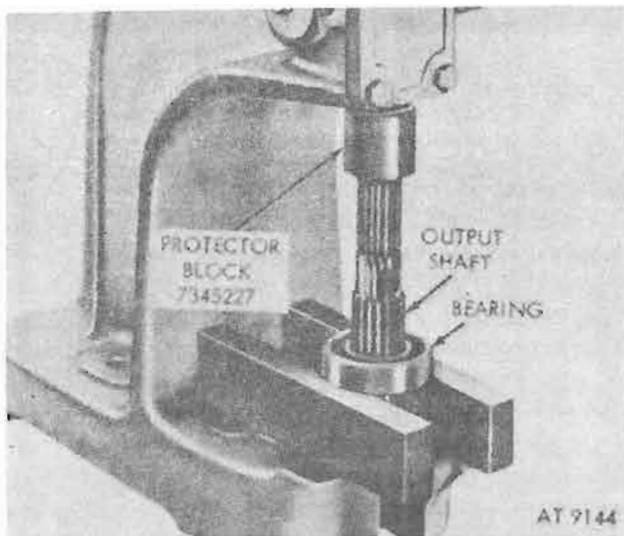

Figure 8-11. Pressing output shaft from front bearing.
l. Using arbor press and protective block (7345227) press output shaft from front bearing (fig. 8-11).